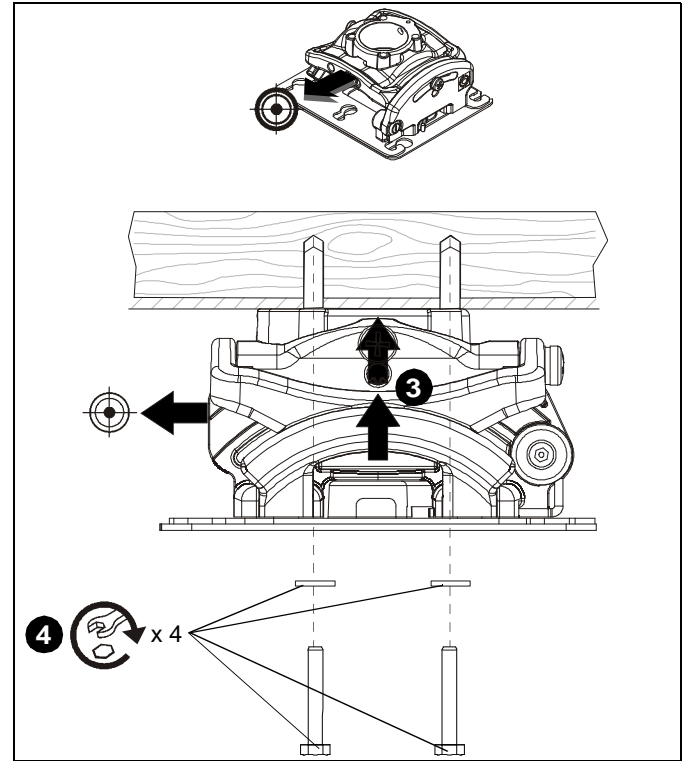

Figure 4
4. Secure RPMX to structure using four 1/4 x 3" ASTM A307, Grade A lag bolts (not included) and four 1/4" Grade 2 flat washers (not included). (See Figure 4)